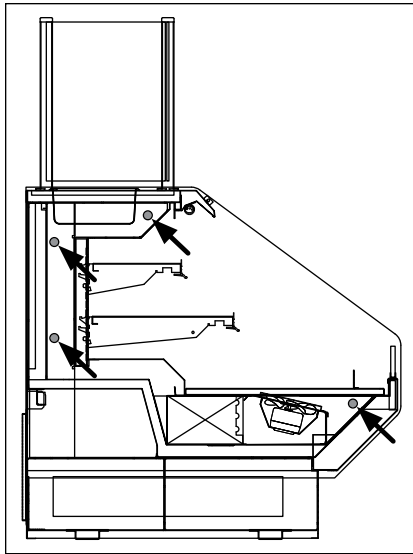

Fig. 5 Bolt locations
4. Push the cases tightly together, then lightly bolt them together through the holes provided (Fig. 5 & 6). Tighten all the joining bolts until all margins are equal. Be careful not to over tighten.